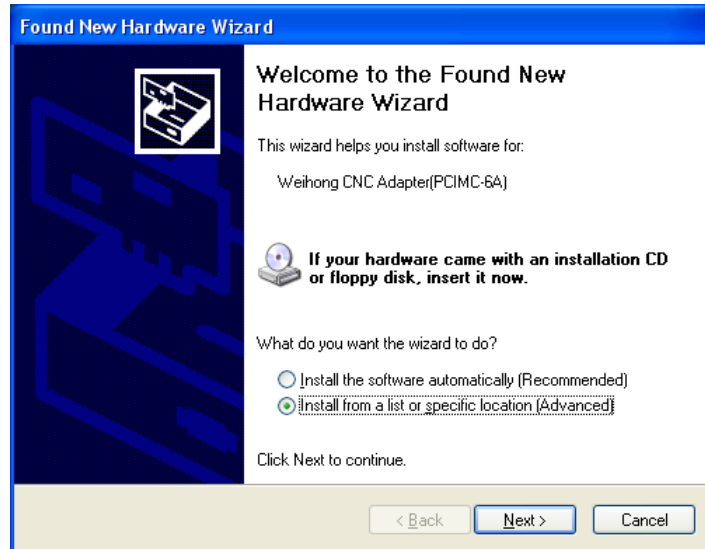

Fig. 3-1 Beginning of driver update
- 1) Right click "My Computer", select "Properties", and click "Device Manager" under "Hardware" tab in the "System Properties" window. And then find "CNC Adapters" in the pop-up "Device Manager" window, right click the option under "CNC Adapters", and select "Update Driver..." to start updating the hardware driver. A new window appears, as shown in Fig. 3-1.